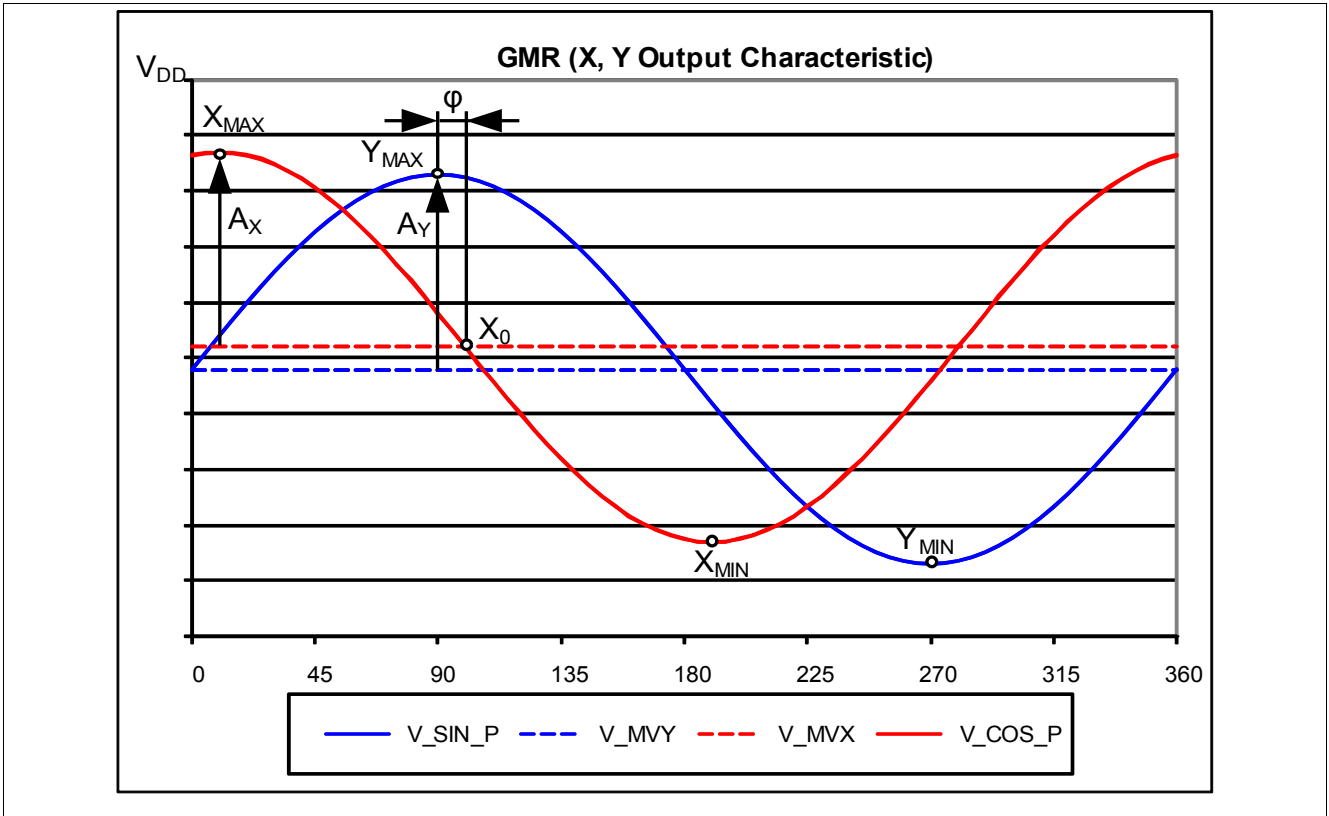
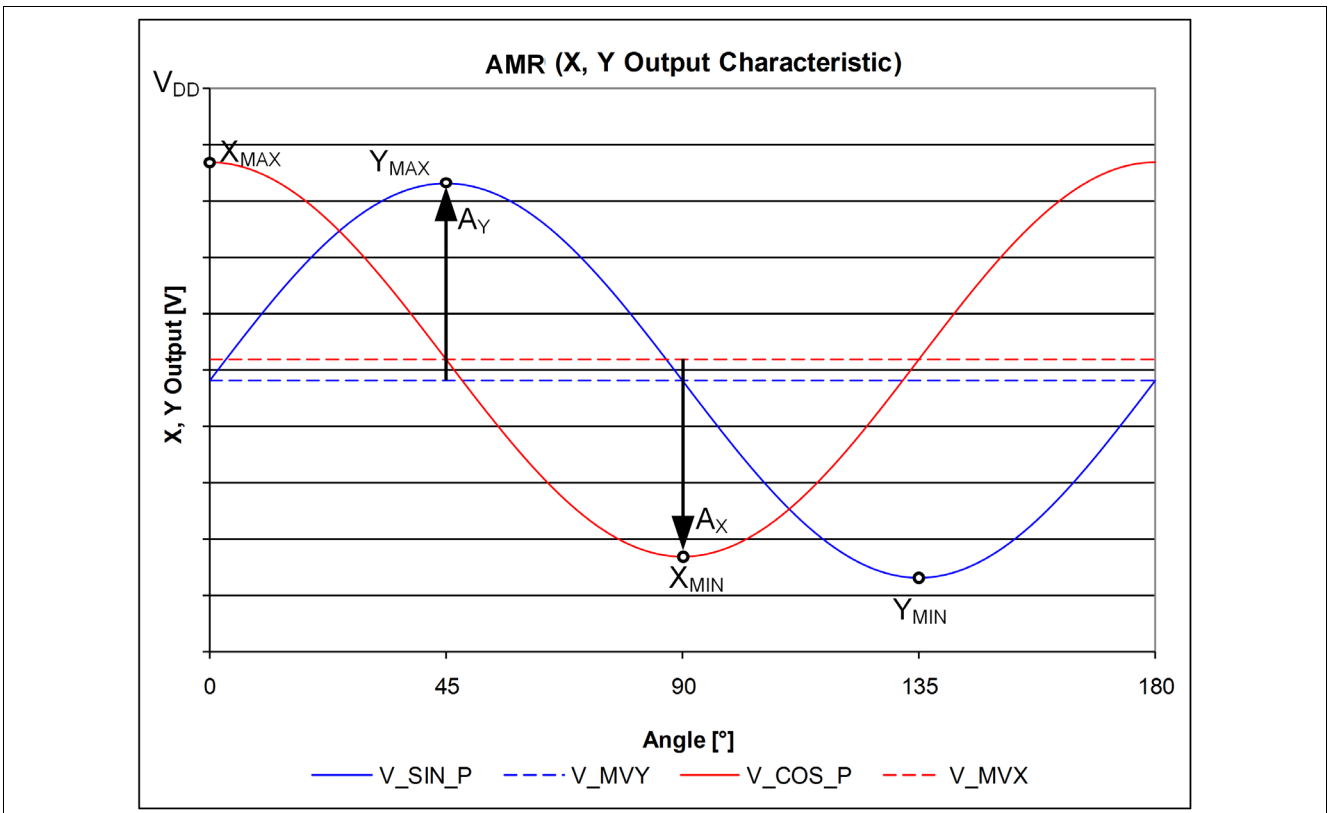
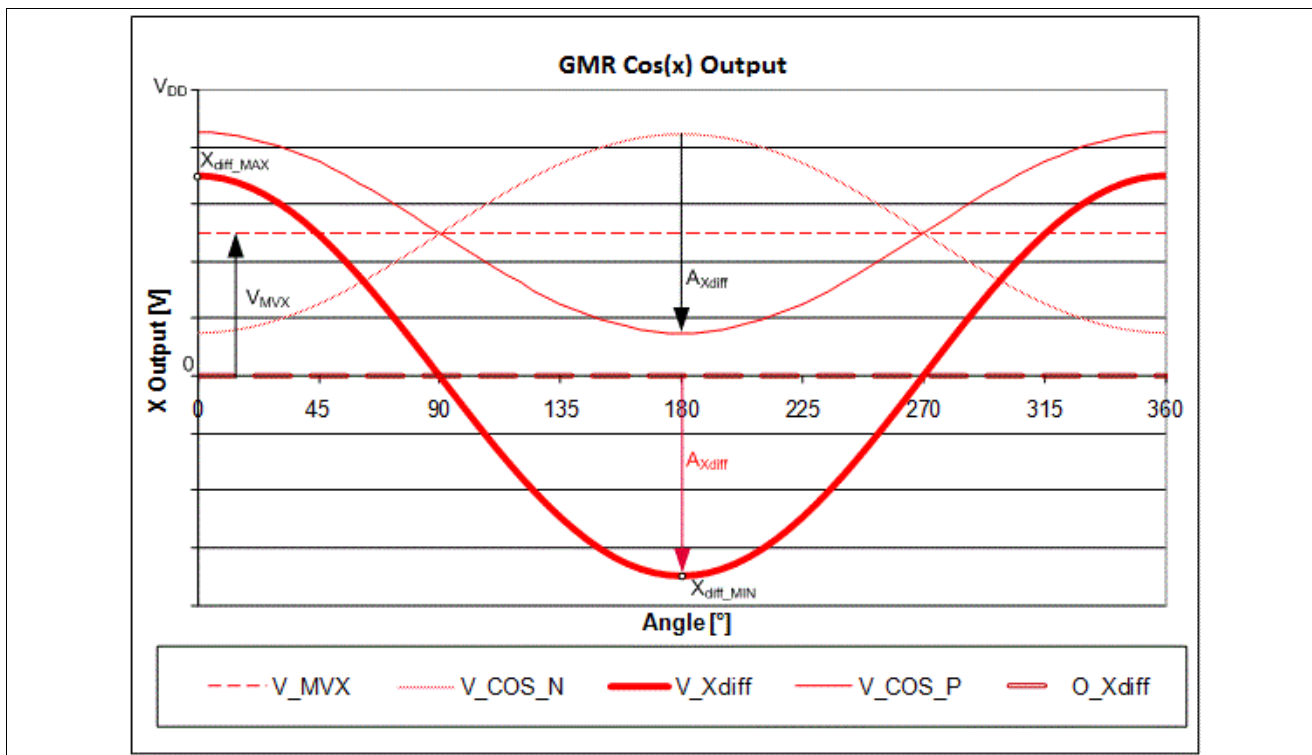

Figure 15 GMR sensor single-ended output signals
Figure 16 AMR sensor single-ended output signals
Figure 17 GMR differential output of ideal cosine
All parameters apply over the full operating range, unless otherwise specified. The parameters in Table 6 refer to single pin output and Table 7 to differential output. For variable names please refer to Figure 15 “GMR sensor single-ended output signals” on Page 18 and Figure 17 “GMR differential output of ideal cosine” on Page 19.
1)  $V_{max}$  and  $V_{min}$  correspond to the voltage levels at  $X_{max}$  or  $Y_{max}$  and  $X_{min}$  or  $Y_{min}$  respectively as shown in Figure 15, Figure 16.